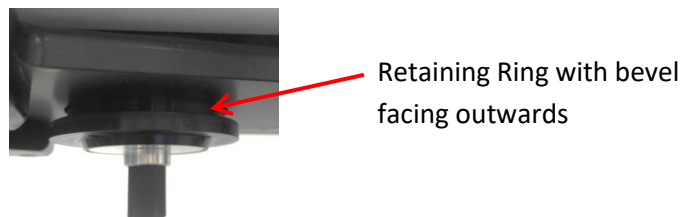

Figure 5: Collar
4. Attach the retaining ring to the mounting collar with the previously removed screws, with the bevel of the retaining ring facing outwards. See Figure 5.